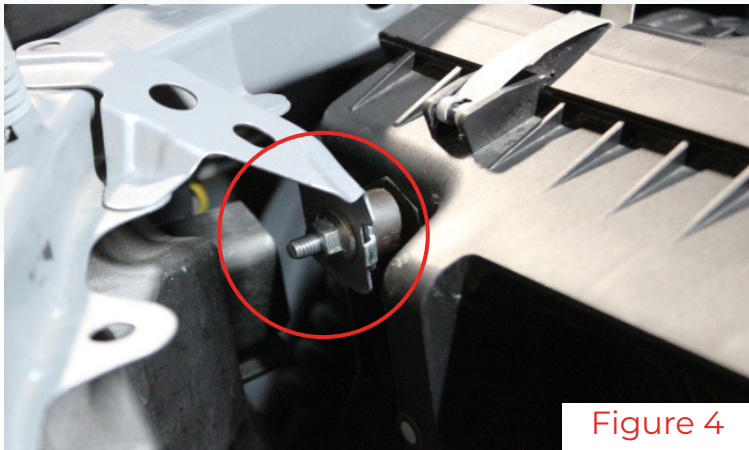

Figure 4
4. Remove the 10mm nut at the front of the factory air box (Figure 4).